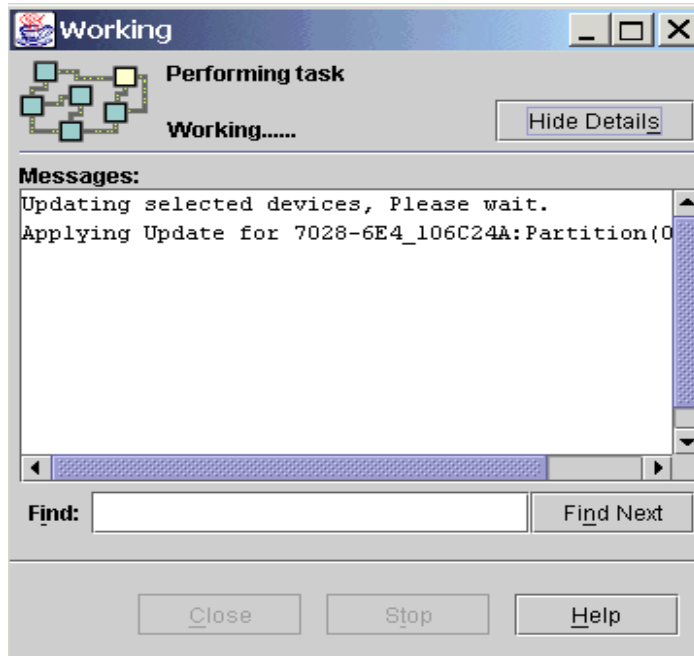

Figure 5-24 Updating microcodes
- You can monitor the Microcode Updates process from a menu as shown in Figure 5-24.